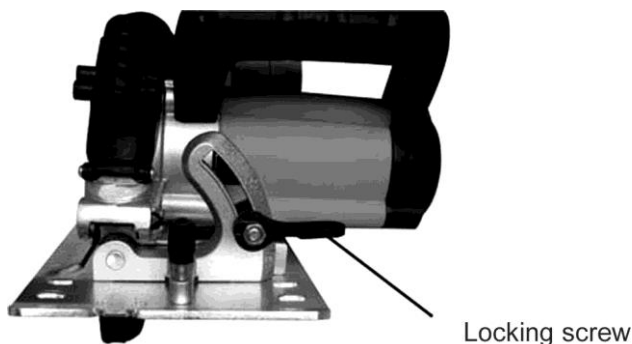

Fig. 3
1. Loosen the cutting angle adjustment. (Fig.3)